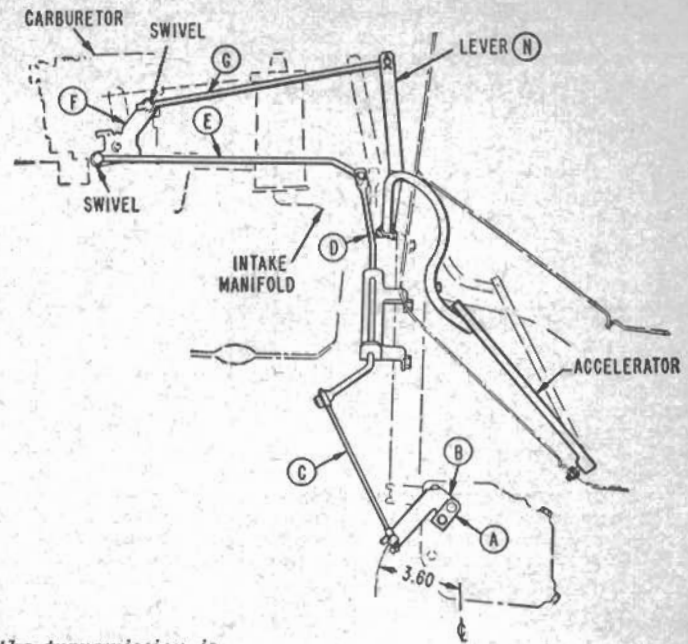

Fig. 29 Throttle linkage adjustment. 1958 V8 Powerglide
1. Referring to Fig. 29, loosely assemble lever B to clamp A.
2. Insert Gauge J-5906 between transmission left hand side cover lower front bolt and hole in lever B. Distance between hole center lines is 3.60", Fig. 29. With gauge in place and holding clamp A counterclock-